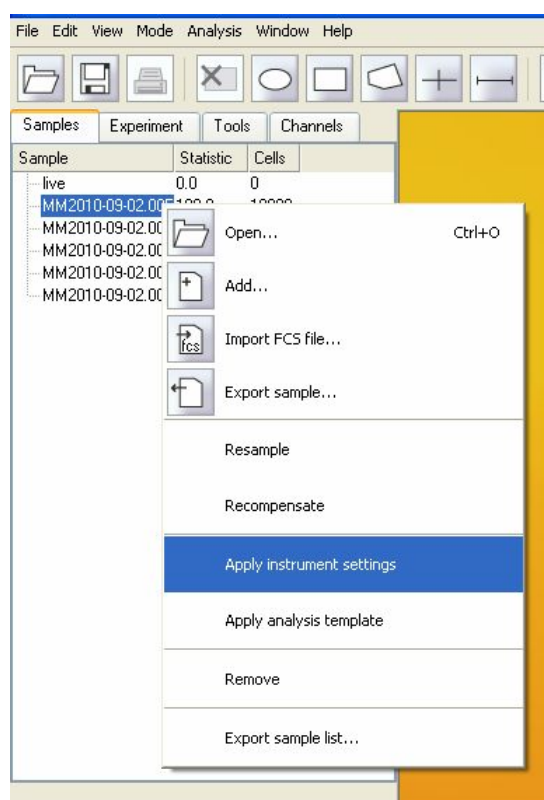

Figure 4.8 Sample list with selected “Apply instrument settings”.
- 2) Right-click on the file and select **Apply instrument settings** (see Figure 4.8).